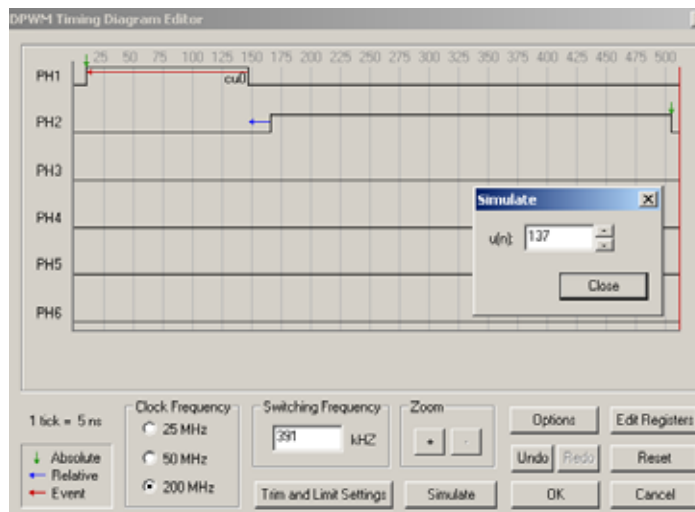

Figure 11. DPWM Timing Diagram Editor—Timing Simulator
3. Click the **Simulate** button to display the Simulate Window (see Figure 11). Use the arrows to increase and decrease the value of  $u(n)$ . Notice that Phase 1's edge should modulate with its absolute edge starting at 10 ticks. Phase 2 should also modulate. However, its rising edge starts relative to Phase 1's falling edge.